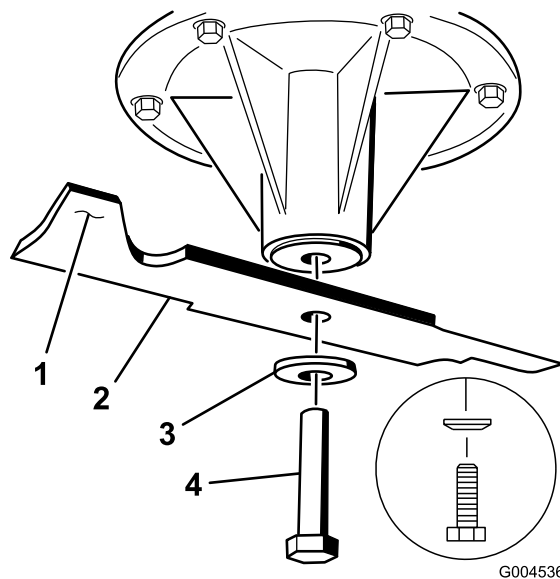

Figure 81
1. Install the blade onto the spindle shaft (Figure 81).
2. Install the spring disk and blade bolt (Figure 81).
**Note:** The spring-disk cone must be installed toward the bolt head (Figure 81).